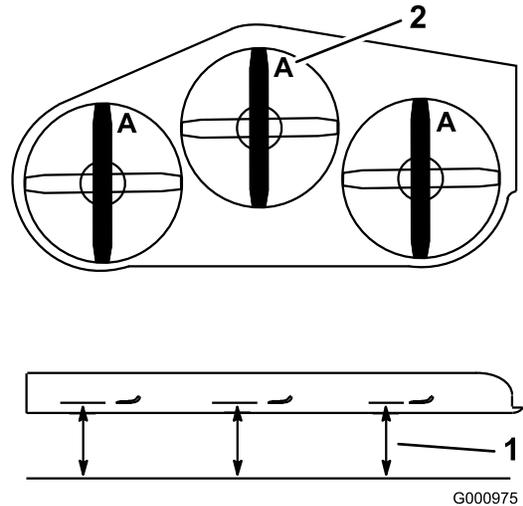

Figure 77
3. Rotate the blades until the ends face forward and backward. Measure from a level surface to the cutting edge, position A, of the blades (Figure 77). Note this dimension.